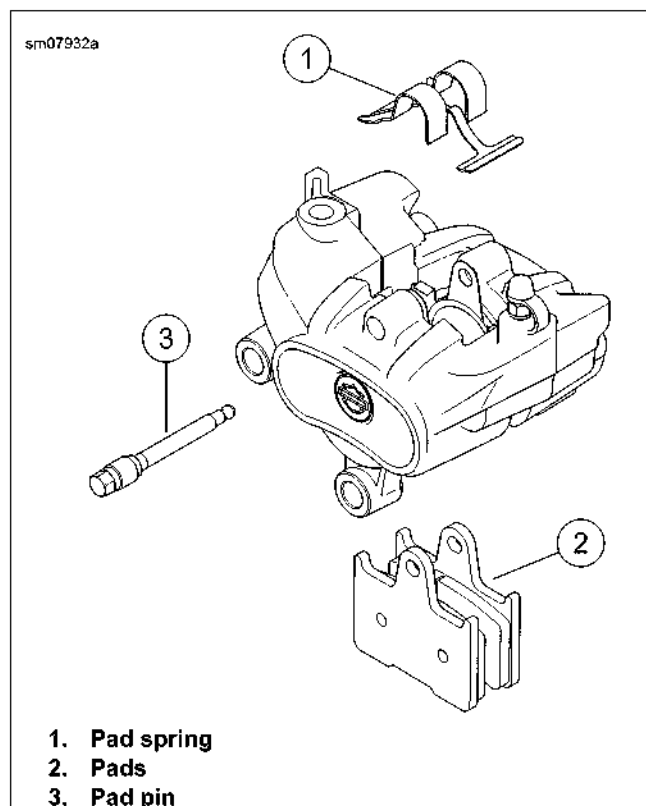

Figure 1-36. Rear Brake Pads
1. See Figure 1-36. Install new pads.
- a. Hold pad spring (1).
- b. Hold brake pads (2) in position.
- c. Press pad pin (3) through outside caliper, outside pad and spring.